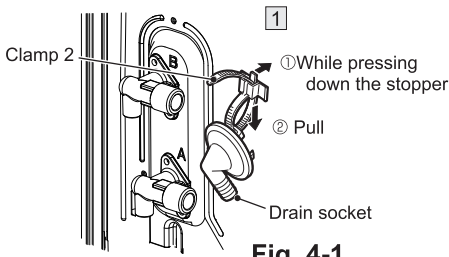

Fig. 4-1
- 1 Remove the piping cover, and remove the provided drain socket from the clamp 2.(Fig. 4-1)